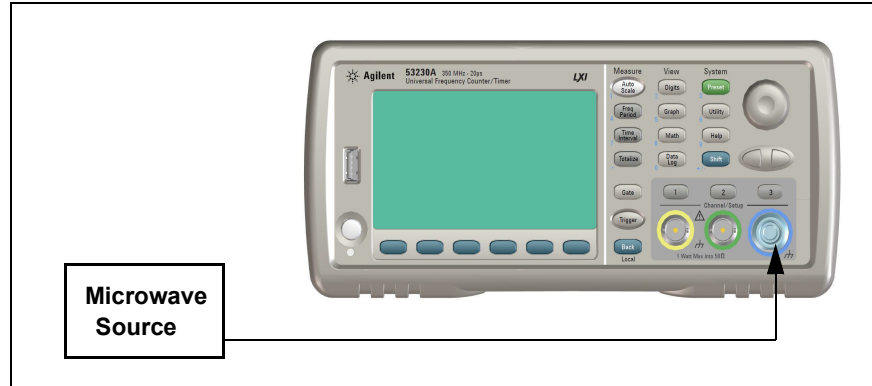

Figure 2-8. Microwave Source Connection to Channel 3
- 6 Connect the microwave frequency source to Channel 3 on the counter front panel. (Channel 2 for a 53210A.) See Figure 2-8.